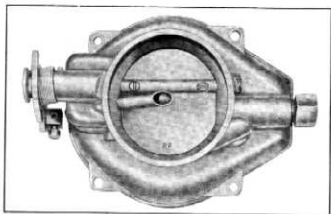

Fig. 100—Choke Valve Installation
- Slip choke shaft into cover. Center choke valve and tighten screws. The letters "RP" or "C" must face outward with choke valve closed (fig. 100).